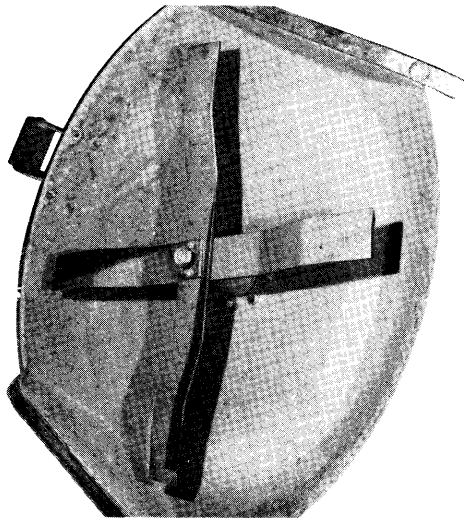

Fig. 6
Install three cutting height spacers (item 8 & 44), blades (item 43 & 27), the remaining spacers and nut (item 13). Torque nut to 100 ft. lbs. (135.6 Nm). See Fig. 6